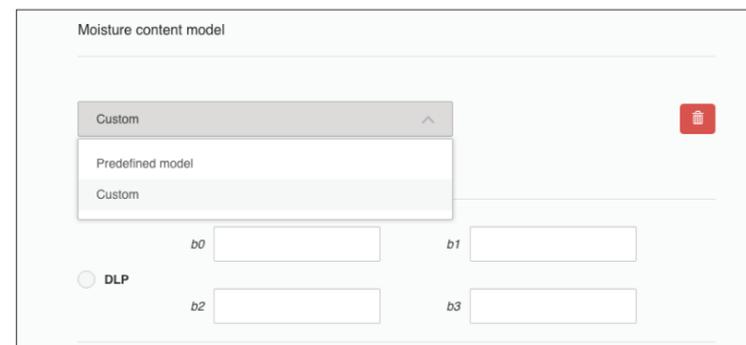

Figure 15 Custom model selection
- a. In the dropdown box below the Moisture Content Model heading, select the Custom model option (Figure 15).